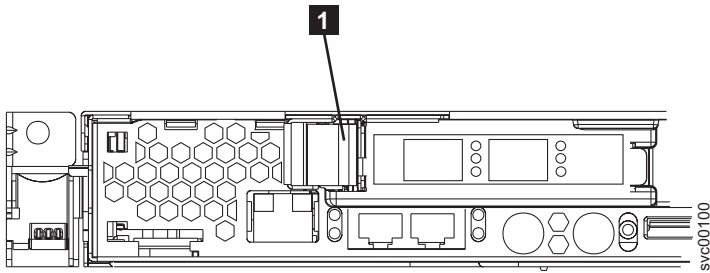

Figure 185. SAN Volume Controller 2145-8F2 or SAN Volume Controller 2145-8F4 PCI slot 1 card retainer
1. Install the Fibre Channel card in slot 1, which is shown in Figure 185 on page 189.